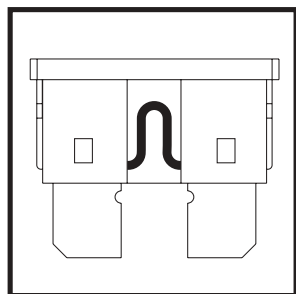

Figure 27. Working Fuse
2. Examine the fuse to be sure it is blown. See figures 27 and 27A.